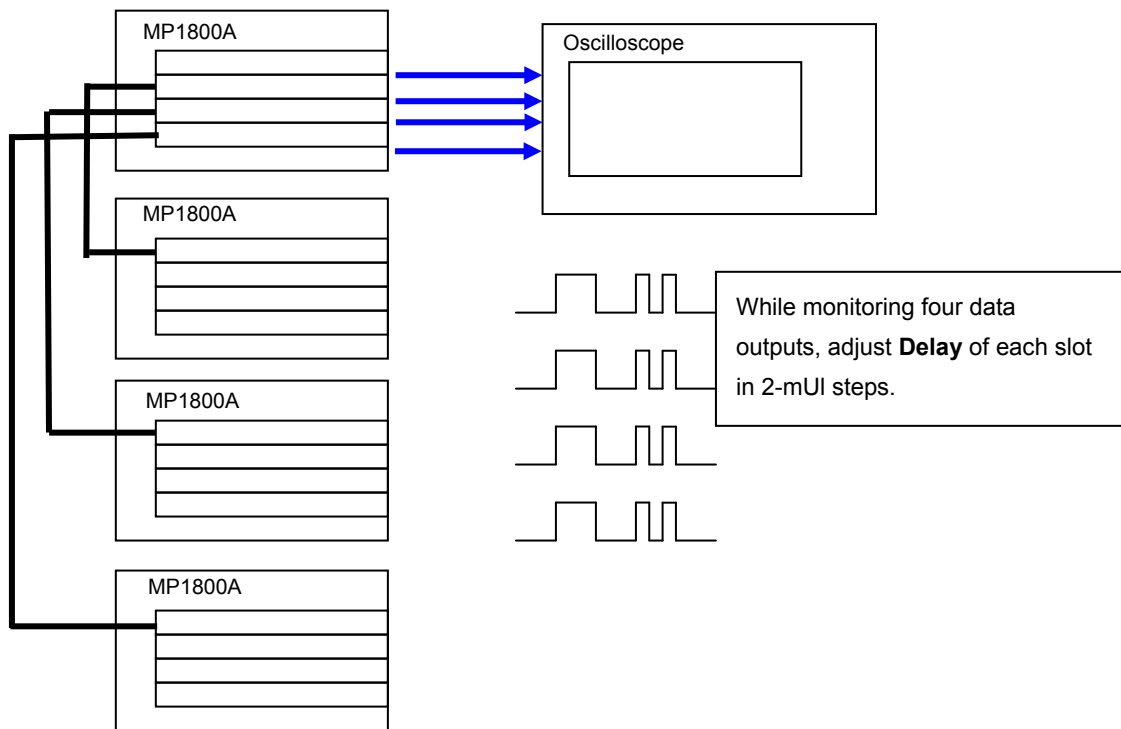
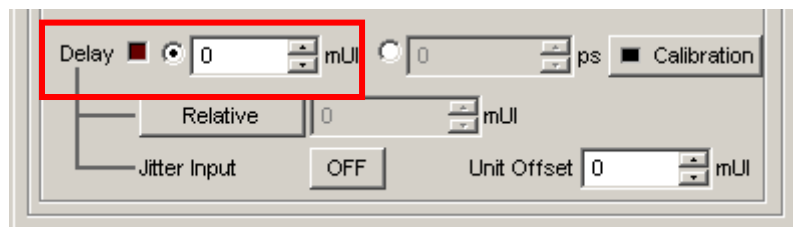

Figure E.1.2-1 Adjusting Output Pattern between Modules
Figure E.1.2-2 Delay Setting Screen
4. While monitoring the data output of Slot 1 to Slot 4 of each main frame with an oscilloscope, adjust the **Delay** setting at the **Output** tab for each slot to minimize the bit drift. Make this adjustment at all four main frames. Refer to Figure E.1.2-1 and Figure E.1.2-2.